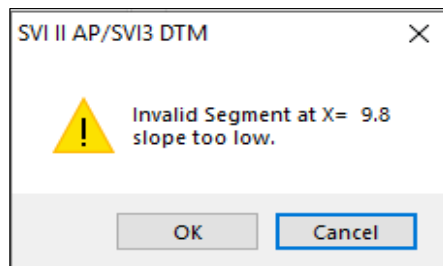

Figure 65 Invalid Segment Dialog
3. Enter values in the *Relative Travel* and *Relative Flow Coefficient* fields from lowest to highest. If there is too drastic a slope change a dialog appears (Figure 65). Adjust values accordingly.